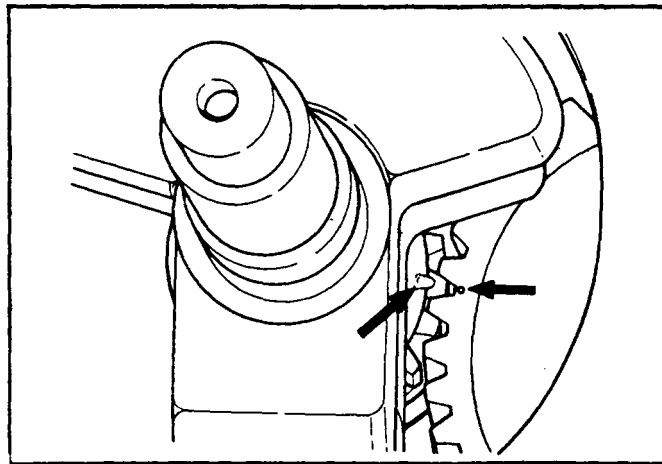

Figure 37 Timing Marks On Crankshaft and Camshaft
- Turn crankshaft and camshaft until timing mark on shoulder of crankshaft lines up with mark (dot) on cam gear as shown in Figure 37.